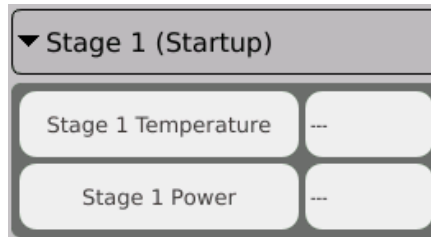

Figure 12-4 Stage 1 (Startup) Drop-Down Menu
1. On the Staging screen, select the **Stage x (Startup)** button to show the drop-down menu (refer to Figure 12-4).